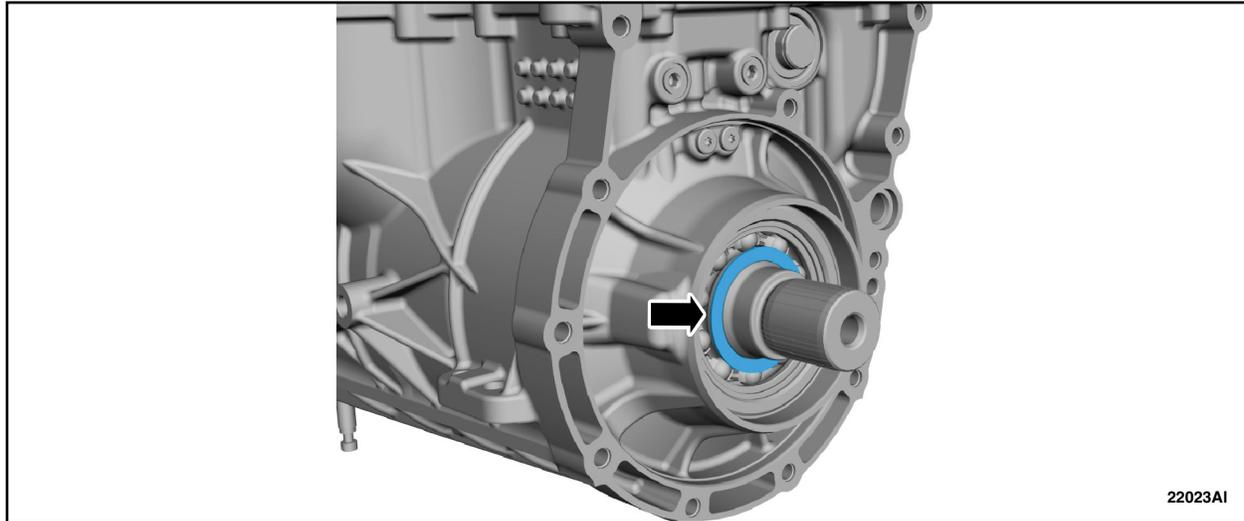

FIGURE 69
80. Install the anti-ting washer. See Figure 69.